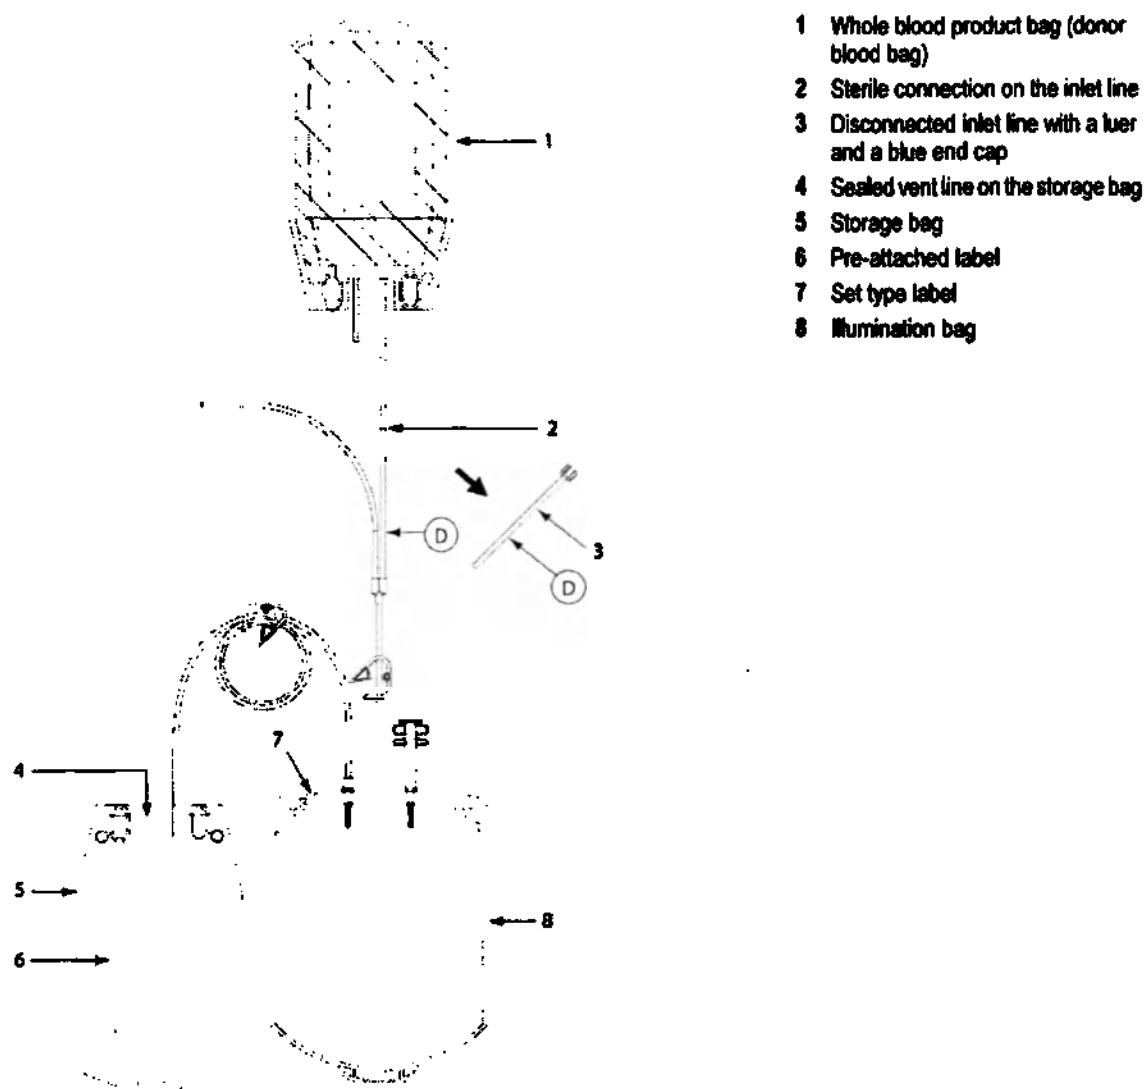

Figure 3: Connecting the whole blood product bag to the illumination bag inlet line
5. Using a sterile connection device, connect the whole blood product bag to the illumination bag inlet line (Line ⑥), and remove the part of the line that has a luer and a blue end cap, as shown in Figure 3. Do not open the sterile connection at this time. (You will transfer the Whole Blood and the riboflavin solution to the illumination bag at the same time in step 8.)
Note: The following set type label should be present on the illumination bag in the position shown in Figure 3, Item 7: